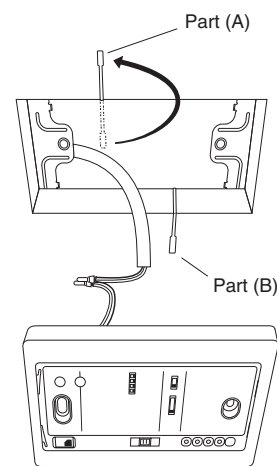

Fig. 3-27
4. Use bracket parts (A) and (B) to securely grip the ceiling material. (Fig. 3-27)